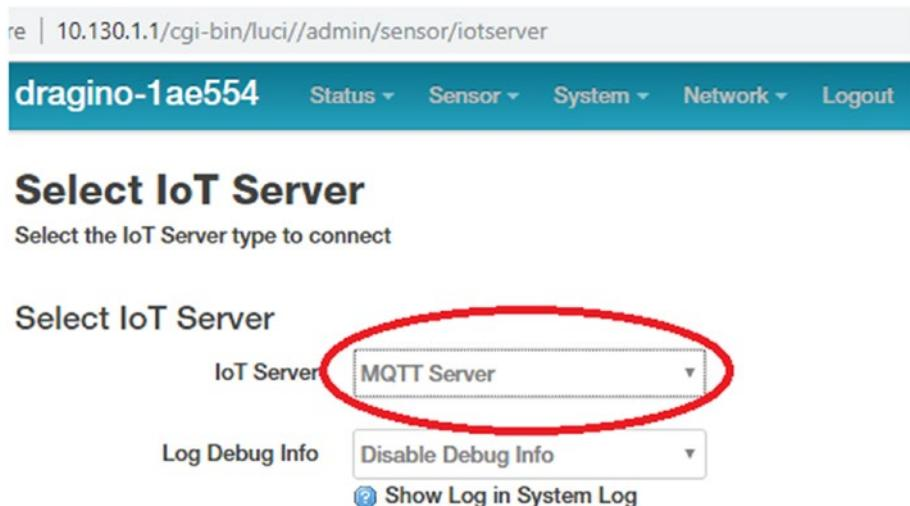

Figure 7-14. Choosing the MQTT server as the IoT server
2. In the configuration interface, select Sensor ► IoT Server. On the Select IoT Server page, from the IoT Server drop-down list, choose MQTT Server (Figure 7-14).